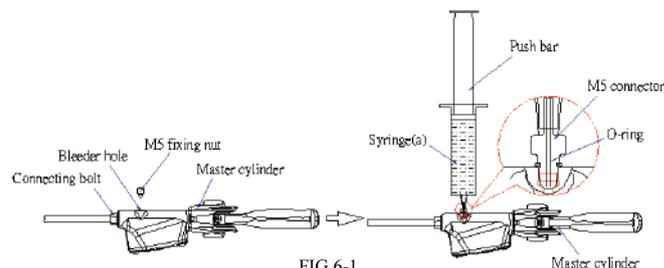

FIG.6-1
- 6-1. Untighten the M5 fixing nut by a 2.5mm hex wrench, tighten the syringe(a) (syringe + M5 connector + O-ring) with 90% filled (abt. 25cc) braking oil onto the oil bleeder hole at a torque of 2~3Nm (17.7~26.55 in.lbs) (as shown in Fig. 6-1)